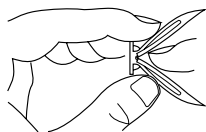

Figure 15 - Folding Anchor
2. Fold floor anchor as shown in Figure 15.